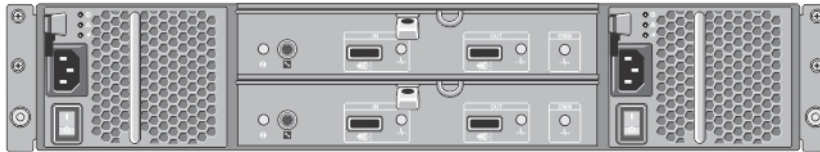

Figure 3. Dell PowerVault MD1200 Rear Chassis
- **Local console connection:** this is a local access connection made between a local workstation and the DR Series system (with one connection made to a USB keyboard port on the DR Series front/rear chassis, and a second connection made to the VGA monitor port on the DR Series system rear chassis. (See Figure 3 for locations in the DR Series System Rear Chassis Port Locations in the Local Console Connection.)
- **iDRAC connection:** this is a remote access connection made between an integrated Dell Remote Access Controller (iDRAC) and the dedicated management port on the DR Series system rear chassis. (See Figure 3 for locations in the DR Series System Rear Chassis Port Locations in the Local Console Connection.)